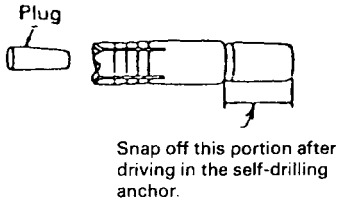

Fig. 6
- (1) Install the self-drilling anchor in the anchor adapter (Fig. 6).